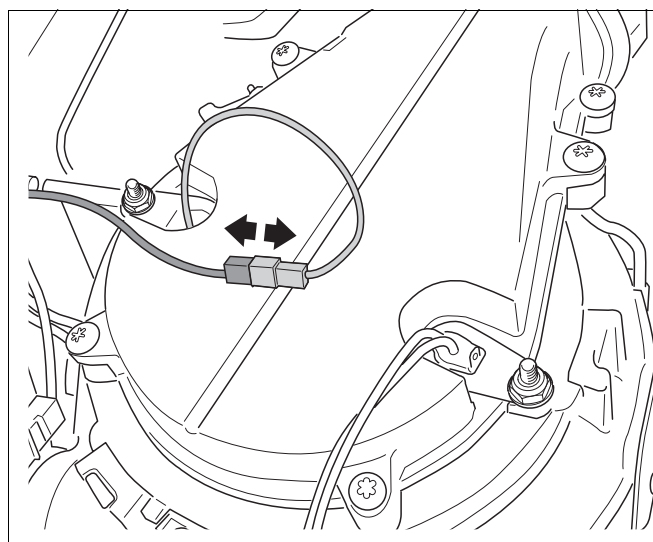

fig. 90 Disconnecting plug
- Disconnect the plug of the ionisation electrode (see fig. 90).